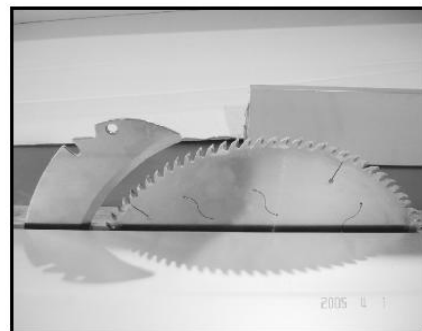

Fig. 52
4. Slide the leading end of the rip fence so it is even with the center of the main saw blade (Fig. 52) Note : This technique allows the finished cut-off piece to "fall" away from the blade when the cutting operation is complete, reducing the possibility of kickback.